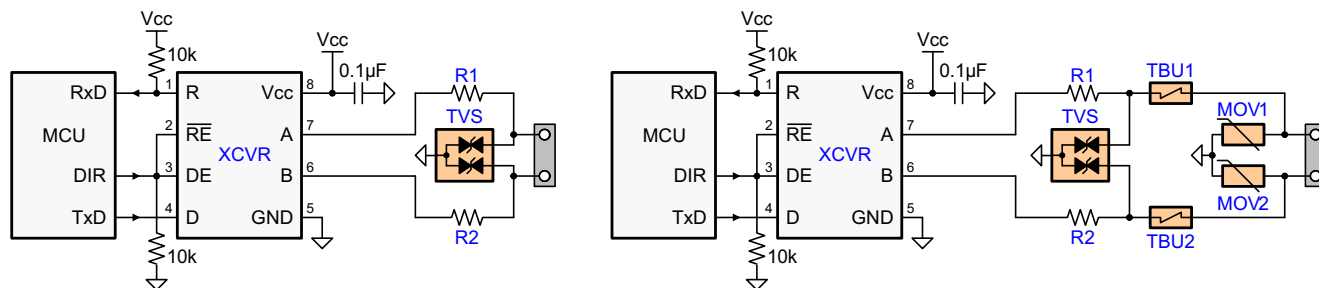

Figure 19. Transient Protections Against ESD, EFT, and Surge Transients
The left circuit shown in Figure 19 provides surge protection of  $\geq 500$ -V transients, while the right protection circuits can withstand surge transients of 5 kV.
While the transient protection is similar to the one in Figure 19 (left circuit), an additional high-voltage capacitor diverts transient energy from the floating RS-485 common further towards protective earth (PE) ground. This diversion is necessary as noise transients on the bus are usually referred to earth potential.